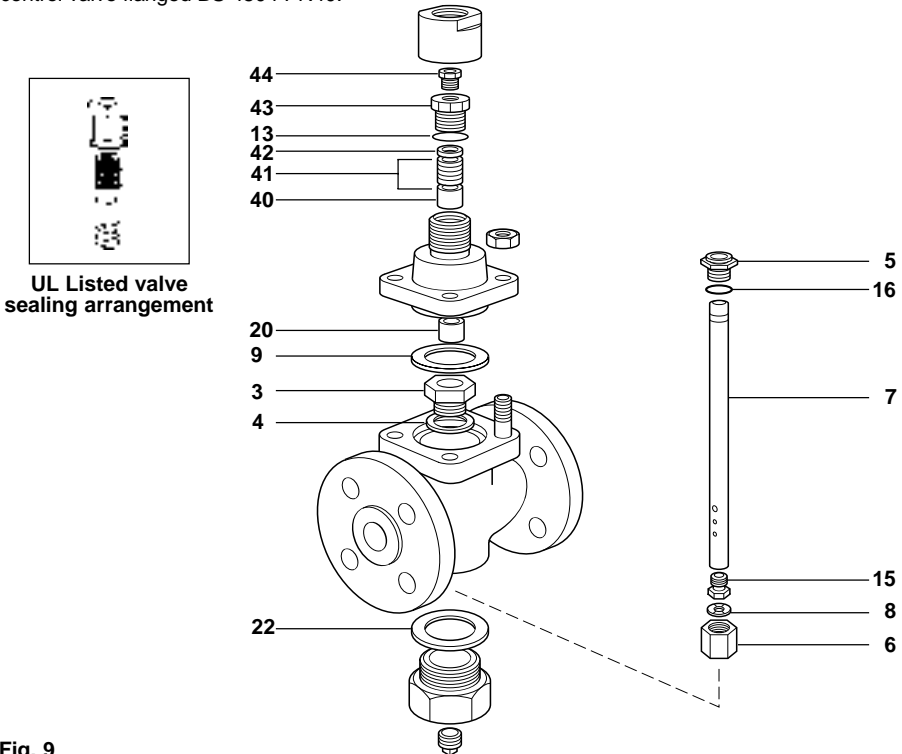

Fig. 9
- Turn the adjustable gland nut (44) clockwise one flat (60°) at a time, then operate the valve several times. Repeat if still leaking.
- Remove and discard the existing stuffing box, PTFE chevron seals, guide bush, and spring (see inset in Fig. 9).
- Fit the bottom support ring (40, see Fig. 9) over the valve stem and locate in the valve bonnet with its small diameter downwards.
- Fit the stuffing box gasket (13) to the stuffing box (43), and pass the stuffing box assembly over the valve stem (7).
- Ensure the gland nut (44) is finger tight against the top support ring (42), then move the valve stem up and down over its full travel five or six times to bed in the packing rings.
- Fit the top support ring (42), chamfer first, into the stuffing box (43). (See Fig. 9).
- Fit the five packing rings (41) into the stuffing box from below, so the thread in the top of the stuffing box cannot damage the rings. Ensure that the splits in the packing rings are staggered.